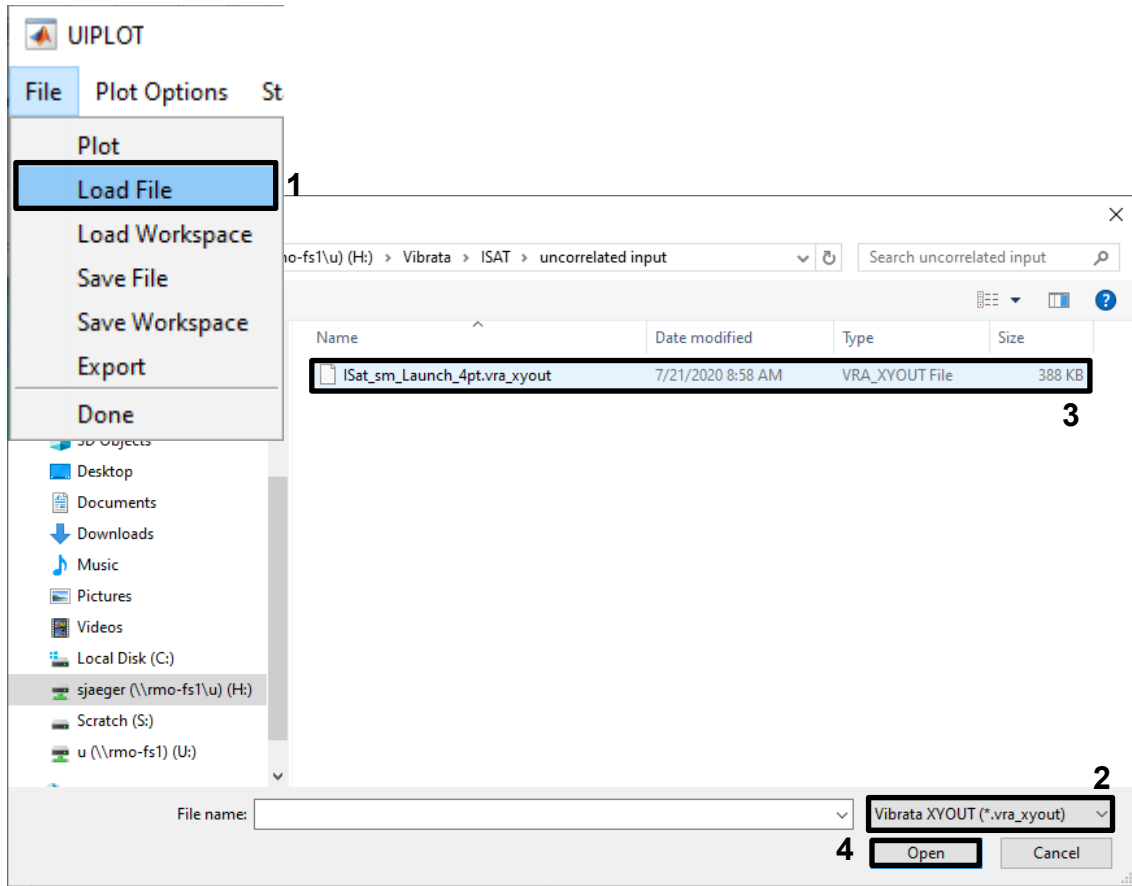
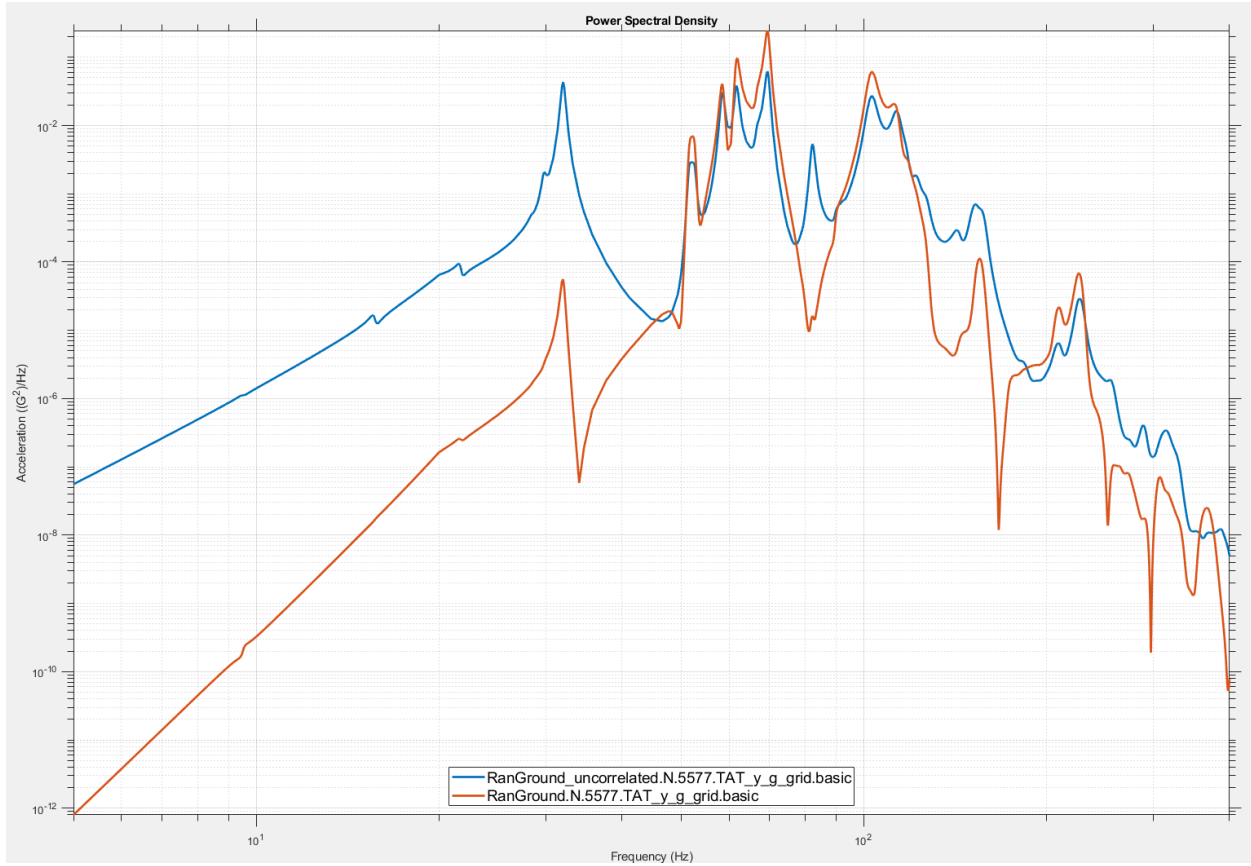

Figure 4-57. Add the rigid-base results to those available for plotting.
Figure 4-58. The Y-acceleration responses for the two events are very different.
8. Compare the Y-acceleration response PSD from this case to the one from the rigid-base event. On the *Output* tab, click the **PLOT XY...** button to bring up the *UIPLOT* dialog. It will show the functions for the current event, which is the four-point model with uncorrelated inputs. Use the *File / Load File* menu to make the results of the rigid-base event available (Figure 4-57). Plot the *TATy* function from both events (Figure 4-58). Again, they are clearly quite different.